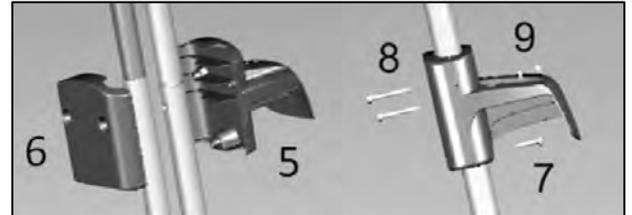

Figure 2
- b) Fit the cable holder (5) and its cover (6) on the lower part of the caddy. **Figure 2.**
- c) Fit 2 long screws (8), into the cover while maintaining the nuts (9) in the cable holder and tighten them (11). **Figure 2.**
- d) Fit the screw (7) at the bottom of the cable holder and tighten it using the key (11). **Figure 2.**
- e) Fit the cable holder (4) and its control box holder (3), fit the long screws (8), in the control box holder (3) while maintaining the nuts (9) in the cable holder and tighten them with the key (11).